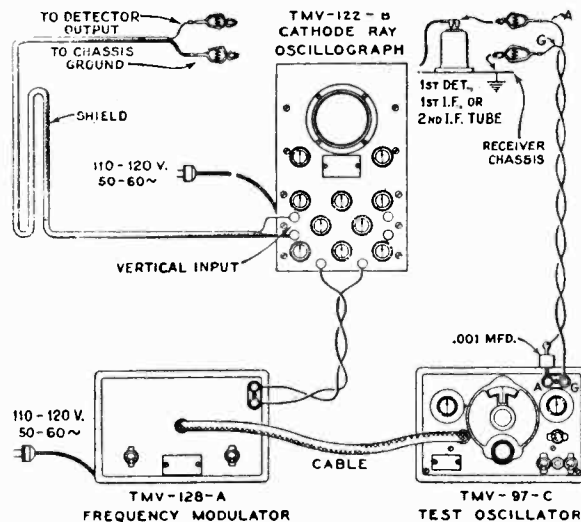
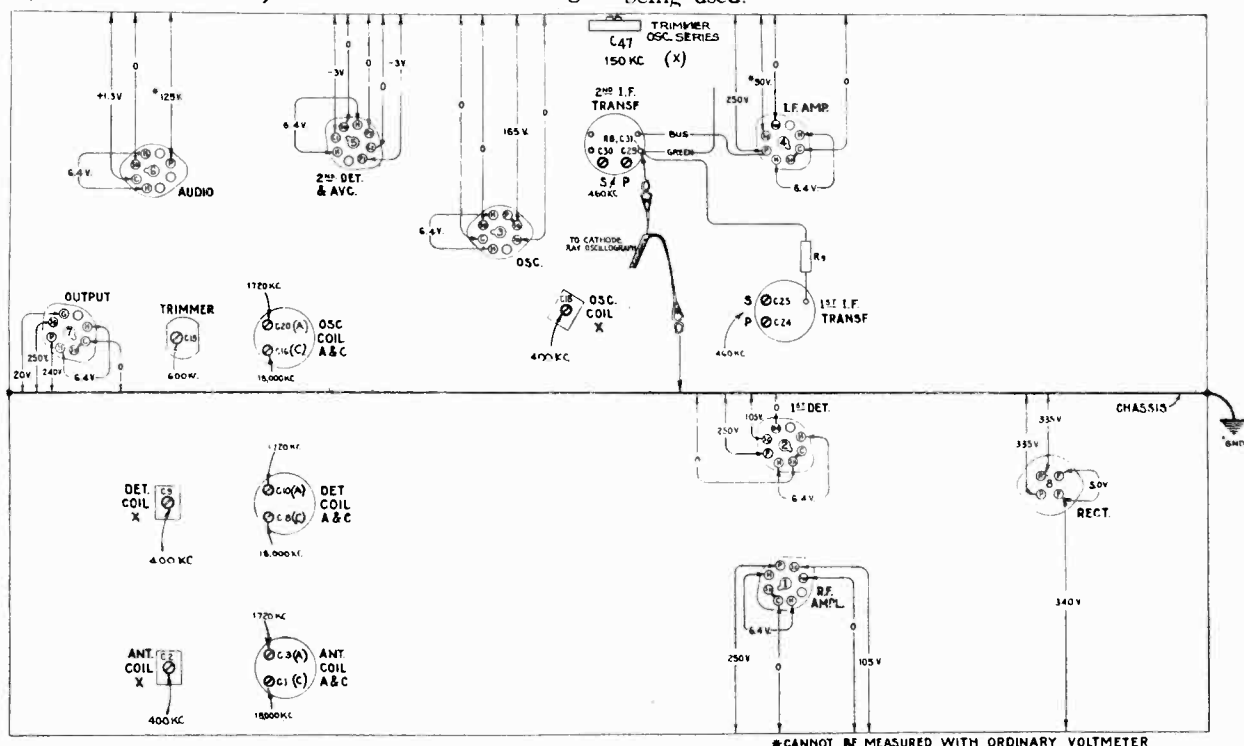

Figure 5—Alignment Apparatus Connections
Figure 6—Trimmer Locations and Radiotron Socket Voltages
The voltage values indicated from the Radiotron socket contacts to chassis on Figure 6 will serve to assist in the location of causes for faulty operation. Each value as specified should hold within  $\pm 20\%$  when the receiver is normally operative at its rated supply voltage. Variations in excess of this limit will usually be indicative of trouble in the basic circuits. The voltages given are actual operating values and do not allow for inaccuracies which may be caused by the loading effect of a voltmeter's internal resistance. This resistance should be duly considered for all readings.
The four trimmers of the two i-f transformers are located as shown by Figure 6. Each must be aligned to a basic frequency of 460 kc. The last transformer must be aligned first and the first transformer aligned secondly. For such a process, it is necessary to feed the output of the Full Range Oscillator to the stage in their order of alignment, adjusting the trimmers of each transformer and observing the effect at the second detector output on the Cathode-Ray Oscillograph. The proper point of connection of the Oscillograph is with its vertical "high" input terminal attached to the junction of R-7, R-8 and R-9 as illustrated in Figure 6, and with the "0" or ground terminal to the chassis. The "Ext. Sync." terminals of the Oscillograph should be connected to the Frequency Modulator as shown by Figure 5. A .001 mfd. capacitor installed in series with the Oscillator "Ant." lead will prevent the voltage of the stage under alignment from becoming upset. The vertical "A" amplifier should be "On" for the ensuing adjustments and the gain control kept at its maximum position. For each adjustment, the Oscillator output need be required so that the image obtained on the Oscillograph screen will be of sufficient size to be accurately observable. Proceed further as follows:—
- Attach the output of the test Oscillator to the control grid cap of the RCA-6K7 if tube and chassis ground as shown typically by Figure 5. Tune the Oscillator to 460 kc, and set its modulation switch to "On". Regulate its output until the signal produces a wave pattern on the Oscillograph screen, adjusting the Oscillograph controls to give the desired number of cycles. Cause the image to stand still on the screen by manipulation of the frequency and synchronizing controls. Then carefully tune the two trimmers C-29 and C-30 of the second i-f transformer to produce maximum amplitude (vertical deflection) of the oscillographic image. Under this condition the transformer will be sharply resonated to 460 kc.
Locations of the various antenna, detector and oscillator coil trimmers are shown by Figure 6. The test Oscillator should be removed from connection with the i-f system and its output connected to the antenna-ground terminals of the receiver. No changes are to
- With the receiver range switch in its Band A position, tune the station selector until the dial pointer is at a reading of 1720 kc. Adjust the test Oscillator to 1720 kc. (modulation "On" and Frequency Modulator disconnected) and increase its output to produce a registration on the Oscillograph. Carefully align the oscillator, detector and antenna trimmers C-20, C-10 and C-3 respectively, so that each brings about maximum amplitude of output as shown by the wave on the Oscillograph. It will be necessary to have the tuning control of the Oscillograph on "Int." for this operation. After each trimmer has been peaked, the Oscillograph tuning control should be set to "Ext." and the Frequency Modulator placed into operation with its connections to the Oscillator and Oscillograph made in accordance with Figure 5. Turn the modulation switch of the Oscillator to "Off" and retune the Oscillator (increase frequency) until the forward and reverse waves show on the Oscillograph and become coincident at their highest points. Adjust the trimmers C-20, C-10 and C-3 again, setting each to the point which produces the best coincidence and maximum amplitude of the wave images.